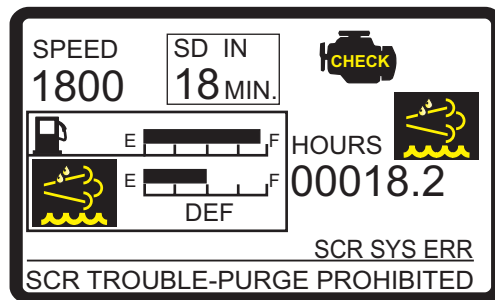

Figure 98. Escape Mode Timer
9. The **Escape Mode timer** (Figure 98) will appear on the main screen. This timer displays the remaining Escape Mode operation time.